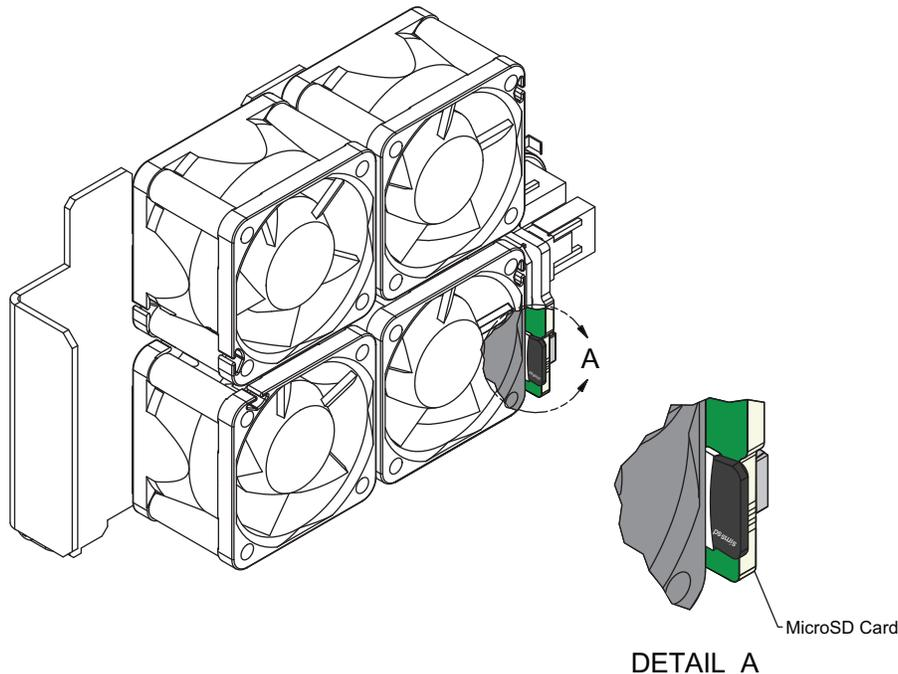

Figure 5 Location of MicroSD Card Slot — Between the Fan and the Fan Board
2. Locate the MicroSD card slot inside the failed Cooling Fan Module. Refer to **Figure 5**.
1. Locate the MicroSD card slot inside the new Cooling Fan Module. Refer to **Figure 5**.